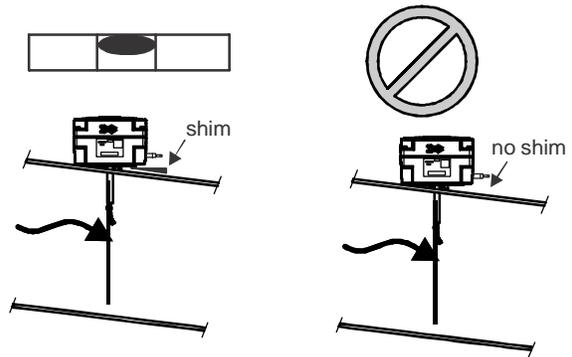

Figure 5: Mounting the F240AA Switch in an Angled Duct
- When mounting the switch in a horizontal duct that is not horizontally true, check with a level and place a shim under the switch mounting plate. Do not mount the switch without a shim (Figure 5).